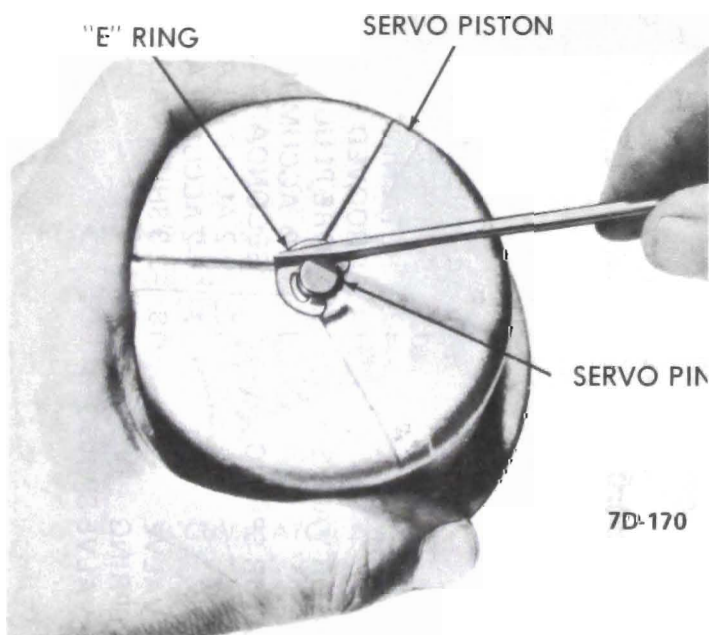

Figure 7D-107
1. Install spring retainer, spring and washer on band apply pin. See Figure 7D-106.
2. Install band apply pin retainer, spring and washer into bore of servo piston and secure with "E" ring. See Figure 7D-107.
VALVE BODY ASSEMBLY (See Figure 7D-108)
3. Install special Tool J-21885 on accumulator piston and remove retaining "E" ring. See Figure 7D-109.
4. Remove front accumulator piston and spring. See Figure 7D-110.